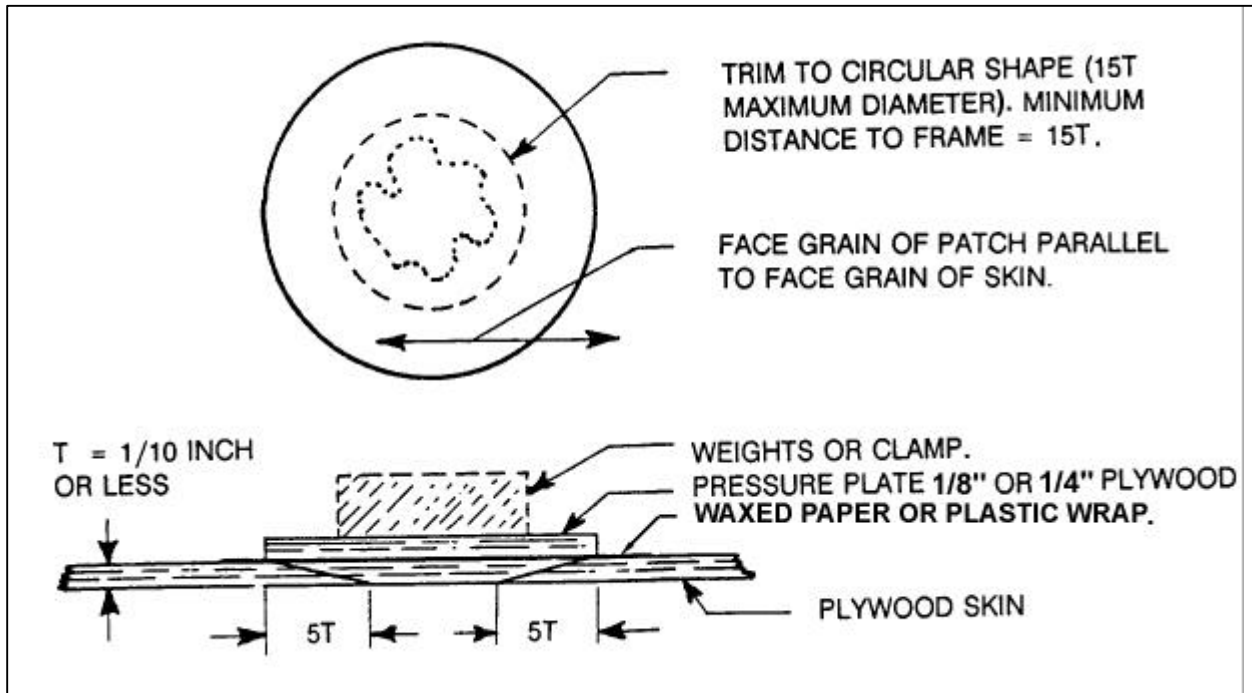

FIGURE 1-13. Splayed patch.
a. Splayed Patch. Small holes with their largest dimensions not over 15 times the skin thickness, in skins not more than 1/10 inch in thickness, may be repaired by using a circular splayed patch as illustrated in figure 1-13. The term “splayed” is used to denote that the edges of the patch are tapered, but the slope is steeper than is allowed in scarfing operations.
(1) Lay out the patch according to figure 1-13. Tack a small piece of plywood over the hole for a center point and draw two circles with a divider, the inner circle to be the size of the hole and the outer circle marking the limits